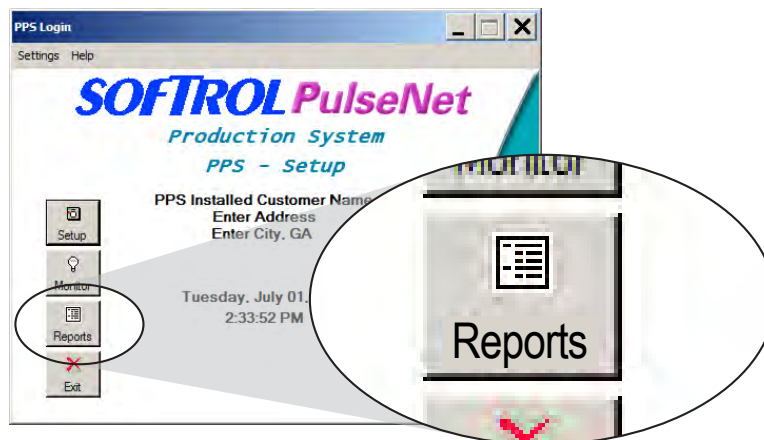

Figure 94. PPS Monitor home screen: Reports
- From the workstation PC, open PPS Monitor and click the reports button (see Figure 94). This will launch the default Internet browser.